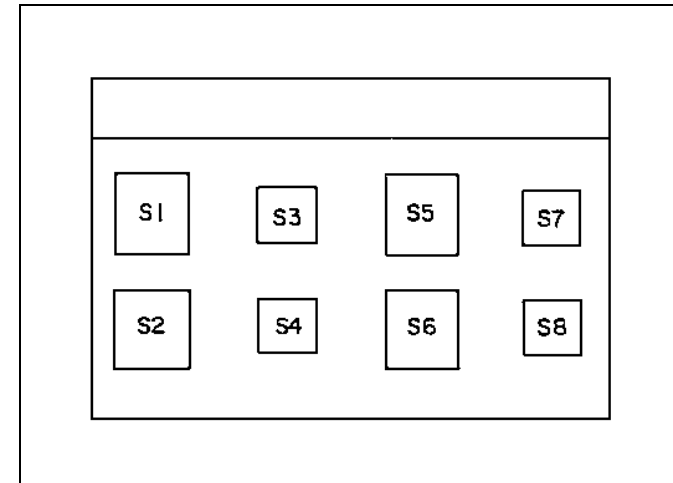

Figure 2 - Switch Numbers For The Control Panel Test
The MVS radio provides a means for testing the switches on the Control Panel. If any button is held in and the power is turned on simultaneously, the LCD will display "S" ("switch") in the channel indicator and the number of the switch in the mode indicator. Figure 2 shows how each Control Panel switch is numbered in the test.
5. Press each of the Control Panel switches. The LCD will display "S" (switch) in the channel indicator and the number of the switch in the mode indicator. Figure 2 shows how each switch is numbered. When a switch is released, the LCD will resume turning off each segment.